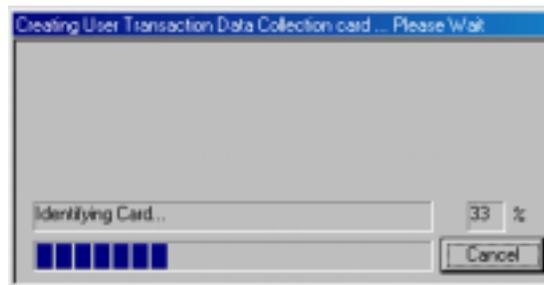

Figure 6.12 Card Creation Progress Window
3. A card creation progress window will appear. When completed, the card has been created (Figure 6.12).